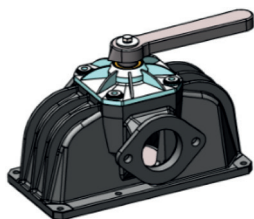
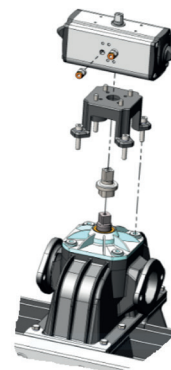
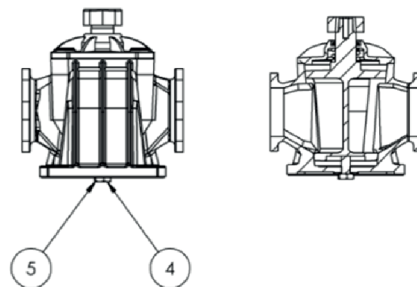

Fig. G.10 - Manual diverter group
Fig. G.11 - Pneumatic diverter group
Fig. G.13 - Four-ways valve screw adjustment
- Use a 6mm Allen wrench to hold down the adjustment screw **pos.4 Fig. G.13**.
- With a 19 mm wrench, loosen the locking nut **pos.5 Fig. G.13**.
- Now operate on the adjustment screw **pos.4 Fig. G.13** by making minimum movements, bearing in mind that by screwing it in, the strain on the diverter is reduced while by unscrewing it, the strain increases. Check the hardness of the movement by moving the lever (manual diverter **Fig. G.10**) or observing the movement (pneumatic diverter **Fig. G.11**).
- When the adjustment is complete, maintain the position of the adjustment screw **pos.4 Fig. G.13** with an Allen wrench and tighten the locking nut.